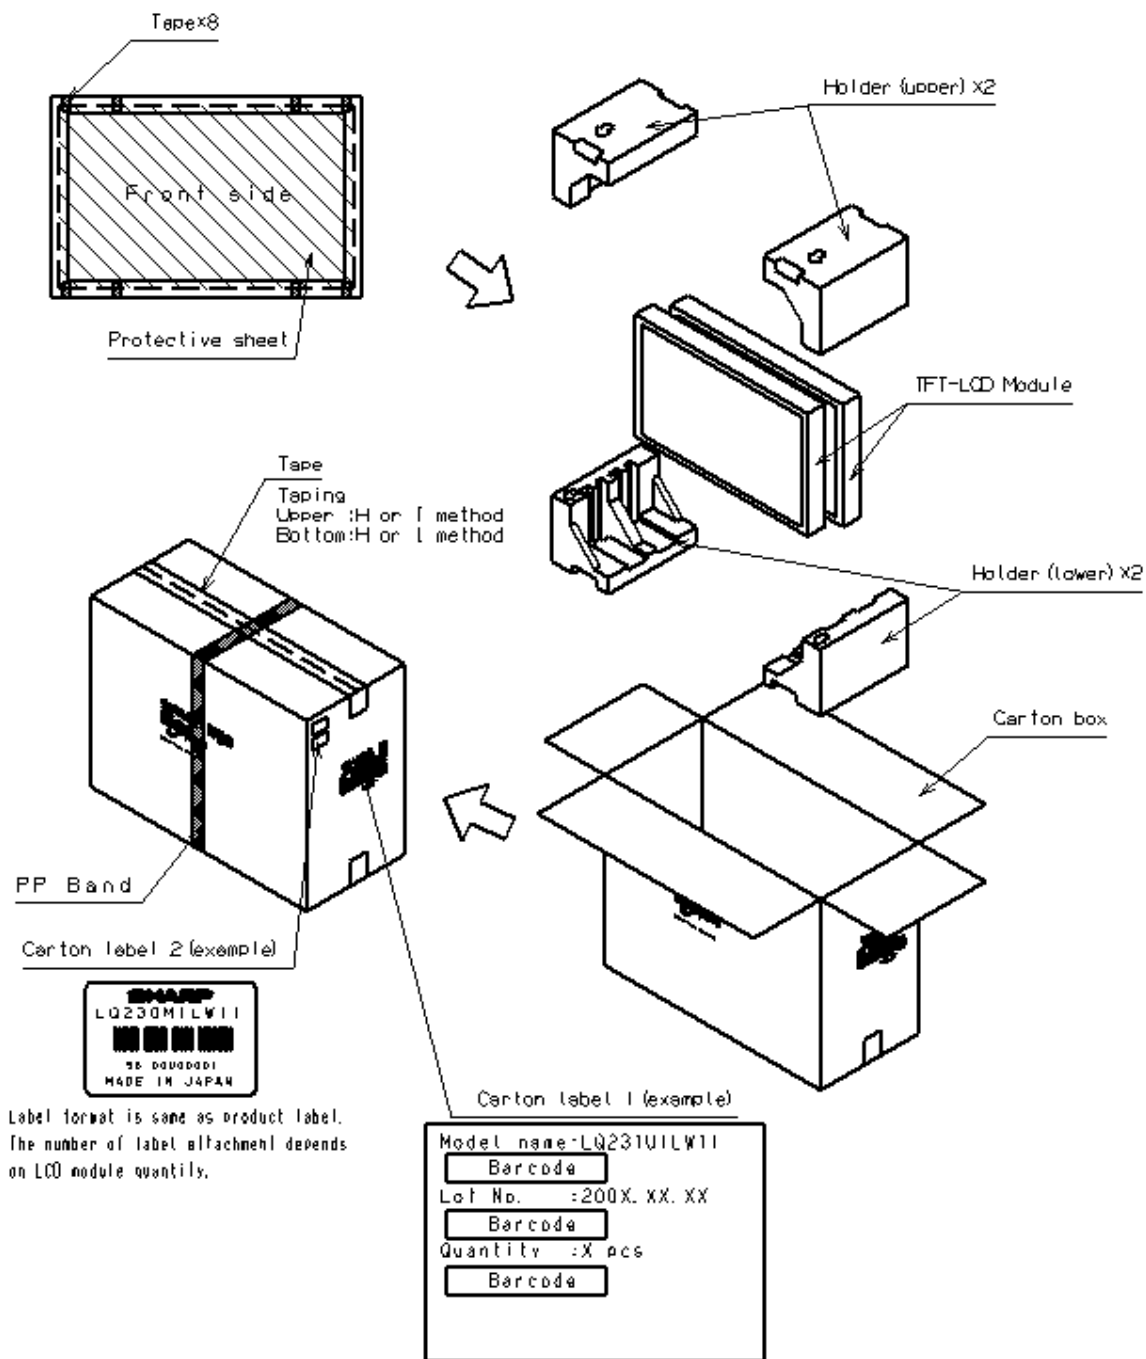

Fig.3 PACKING FORM
- c) Carton size : 620(W)×447 (H)×276(D) mm
- d) Total mass of one carton filled with full modules : (6.0)Kg (YP)
- e) Packing form figures are shown in Fig.3